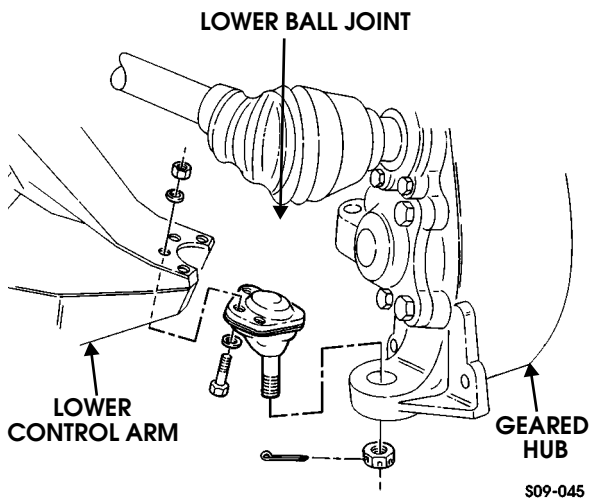

Figure 9-6: Lower Ball Joint Replacement
2. Raise and support lower control arm (Figure 9-6).
1. Install lower ball joint on lower control arm, ensuring lower ball joint is placed below lower control arm and secure with four washers, bolts, washers, and locknuts. Tighten front locknuts to 37 lb-ft (50 N•m) and rear locknuts to 65 lb-ft (80 N•m) (Figure 9-6).